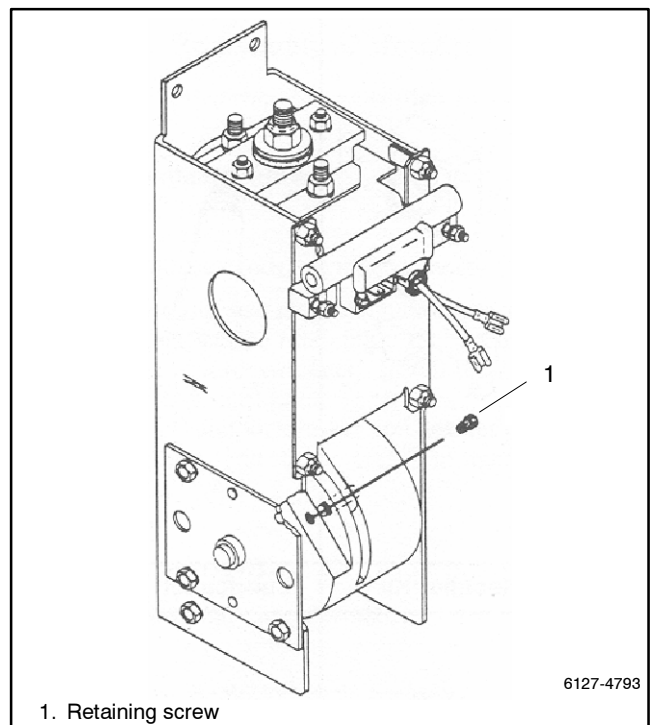
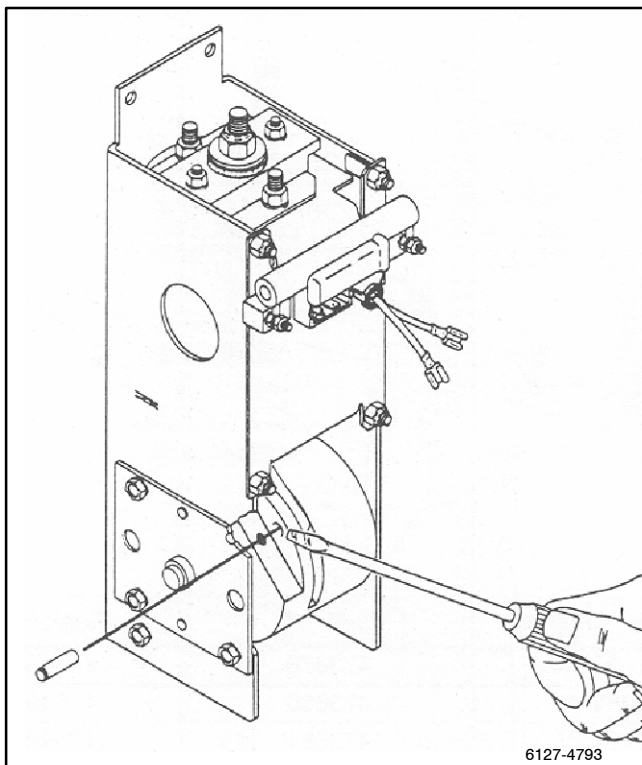
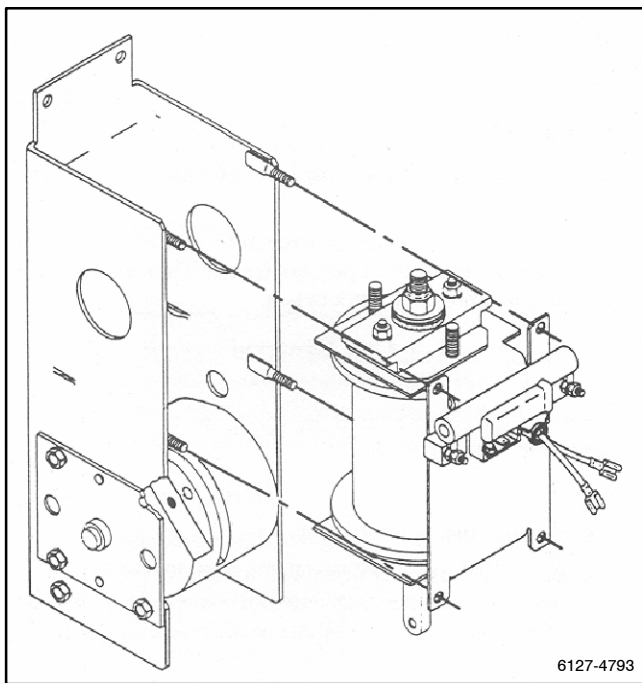
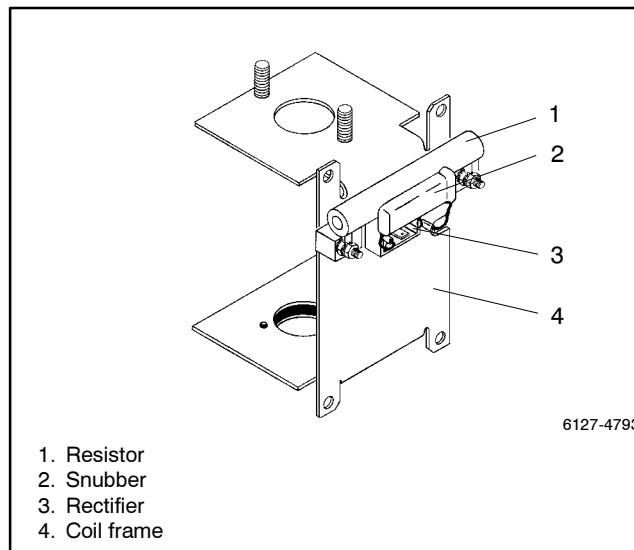

Figure 9-9 Retaining Screw
Figure 9-10 Link Pin
Figure 9-11 Removal of Coil Assembly from Operator Frame
Figure 9-15 Rectifier and Resistor
The coil assembly is mounted in the operator assembly on the left side of the panel. It must be removed to a work bench for disassembly. See Figure 9-9, Figure 9-10, and Figure 9-11.
2. Disconnect the rectifier and resistor (Figure 9-9) Carefully pull off the two white power wires and the
3. Remove the retaining screw and link pin (Figure 9-10). Use a 3/16 in. hex key wrench to remove the hex socket head screw from the weight. Then use a screwdriver to pry out the link pin in left side of the weight.
4. Remove the coil assembly (Figure 9-11). Use a 7/16 in. nutdriver or wrench to remove four hex nuts from the operator frame. Then remove the coil assembly to a work bench.
The coil assembly can now be reinstalled onto the operator assembly on the left side of the switch panel. See Figure 9-9, Figure 9-10, and Figure 9-11.
1. Install the coil assembly onto the operator frame (Figure 9-11). Place the coil assembly onto the four studs on the operator frame and align the link into the slotted weight. Use a 7/16 in. nutdriver or wrench to tighten the four hex nuts.
2. Install the link pin and retaining screw (Figure 9-10). Insert the link pin (groove side out)
3. Reconnect the resistor/rectifier on the coil frame (Figure 9-9). Replace the resistor (if necessary), reconnect the two white wires with ring lugs to each end, and install and tighten the hex nuts. Replace the rectifier (if necessary) and carefully reconnect the four wires with push-on lugs to the rectifier terminals as follows: connect the two white power wires to the AC terminals ~, and connect the two black coil leads to the DC terminals (red dot and no dot, polarity does not matter). Be sure the blue snubber is still installed between the DC terminals. See Figure 9-15.